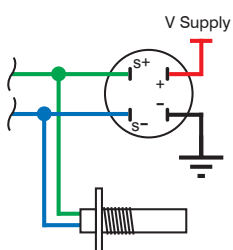

Figure 13
- Refer to the connections in **“Figure 9 - Tacho Input Connections”** and **“Figure 13”**.